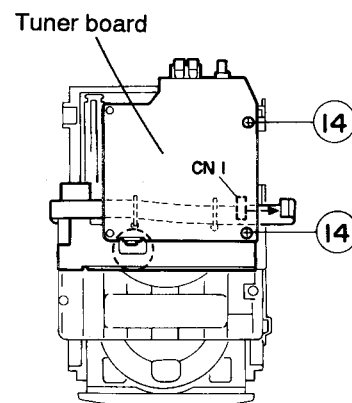

Fig. 5-14
After dismantling two spacers ⑧ in advance, remove three screws ⑬ securing the tuner board assembly. Then, remove the card wire coming from connector CN705 on the LCD/microcomputer board from connector CN1 on the tuner board (Fig. 5-14). When removing only the tuner board, remove two screws ⑭ as shown in Fig. 5-14.